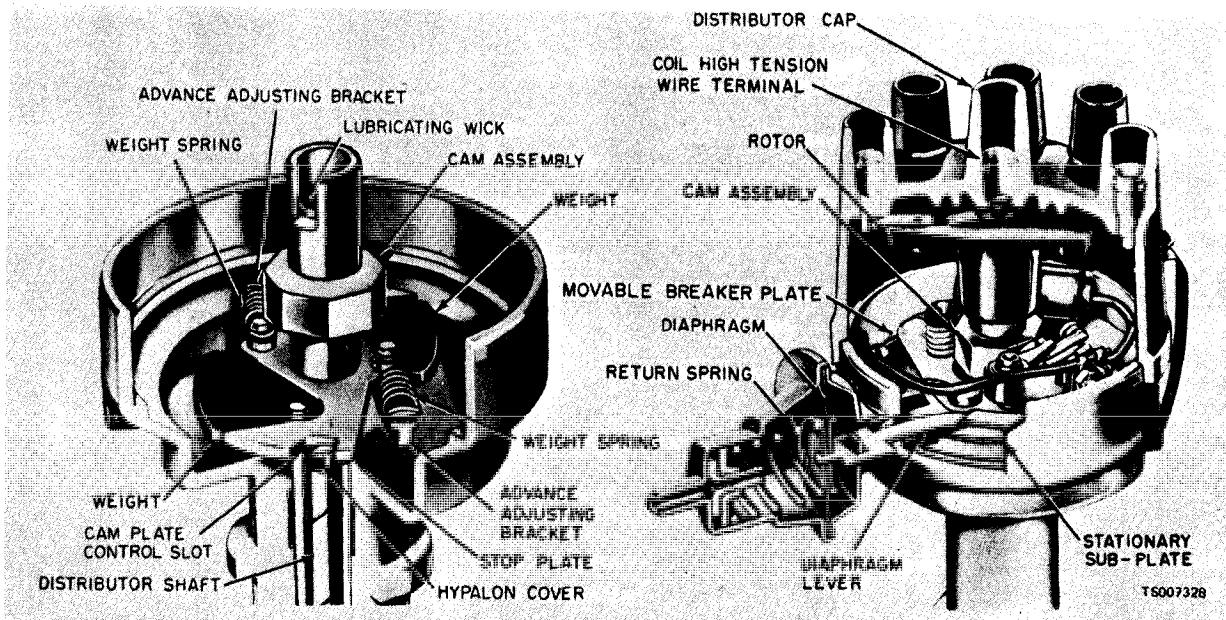

Figure 3-8. Distributor Cutaway
a. Centrifugal Advance. The centrifugal advance mechanism (fig. 3-8) is located below the